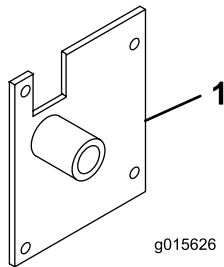

Figure 12
1. Using the mounting holes in the left side of the frame, secure the left hopper mounting bracket to the frame with (4) 5/16 x 1-1/4 inch capscrews and locknuts (Figure 12). The notch in the bracket is to fit around the hood latch.